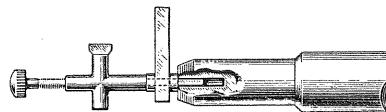

Figure 9
- (e) After properly locating the damping block, a soldering iron should be applied to the armature so that the block will melt slightly at its point of contact with the armature. A special tip, constructed as shown in Figure 9, will prove desirable for fusing the block in place. The iron should be applied long enough to slightly melt the block and cause a small bulge on both sides, but should not be applied long enough to cause any bubbling. The pickup should then be reassembled as described in the preceding section.